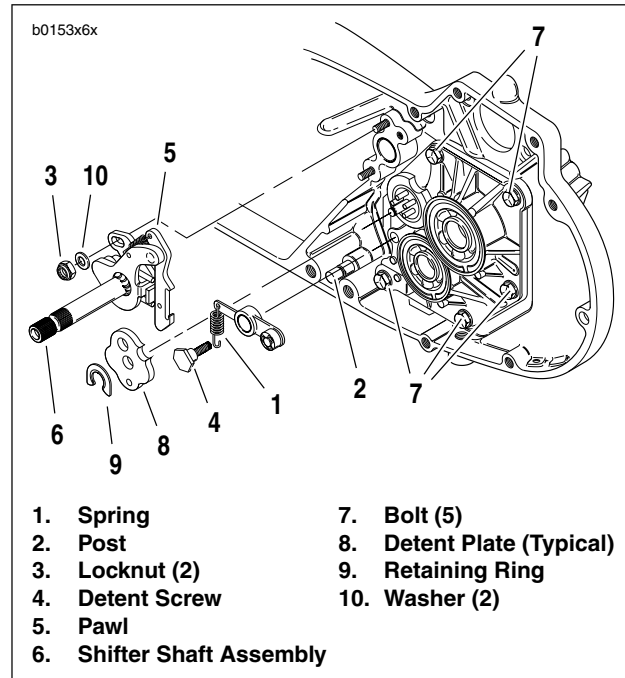
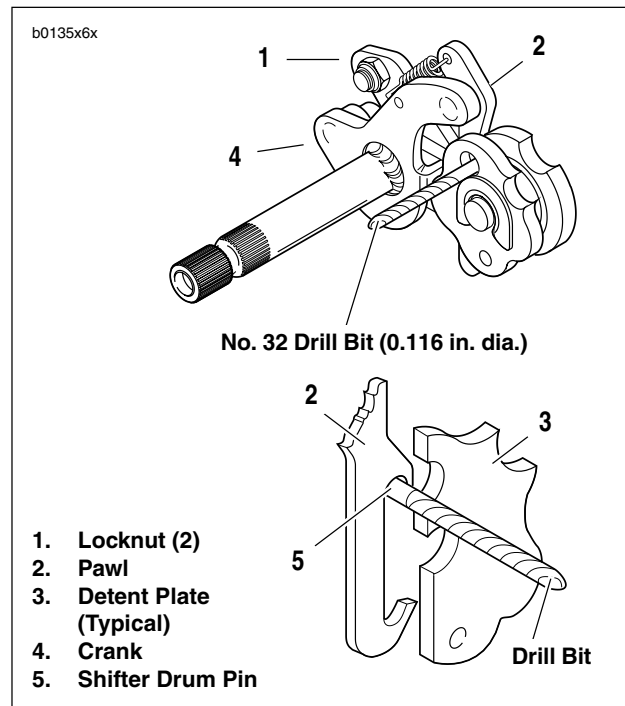

Figure 6-60. Installing Access Door
Figure 6-61. Shifter Shaft Assembly Alignment
2. See Figure 6-60. Install access door.
- a. Apply a few drops of LOCTITE THREADLOCKER 243 (blue) to all five access door mounting bolts (7).
3. Lift pawl (5) over drum pins and place shifter shaft assembly (6) on studs at transmission case. Loosely install a washer (10) and locknut (3) on each stud.
4. Attach loop of spring (1) over and into groove in post (2).
- a. Place detent plate (8) over drum pins.
- c. Install **new** retaining ring (9) using SHIFT DRUM RETAINING RING INSTALLER (Part No. HD-39151).
6. See Figure 6-61. Align shifter shaft.
- b. Place a No. 32 drill bit (0.116 in. dia.) through hole in detent plate (3), and between pawl (2) and drive pin at end of shifter drum shaft.
- c. Push down top of crank (4) to remove all clearance between pawl and drill bit; this will correctly align pawl to shift drum pins (do not push down with too great a force, as this might cause the shifter drum to rotate).
- d. With bit in place, tighten shifter shaft assembly bottom locknut (1) first to 90-110 **in-lbs** (10-12 Nm). Then, tighten shifter shaft assembly top locknut (1) to the same torque.